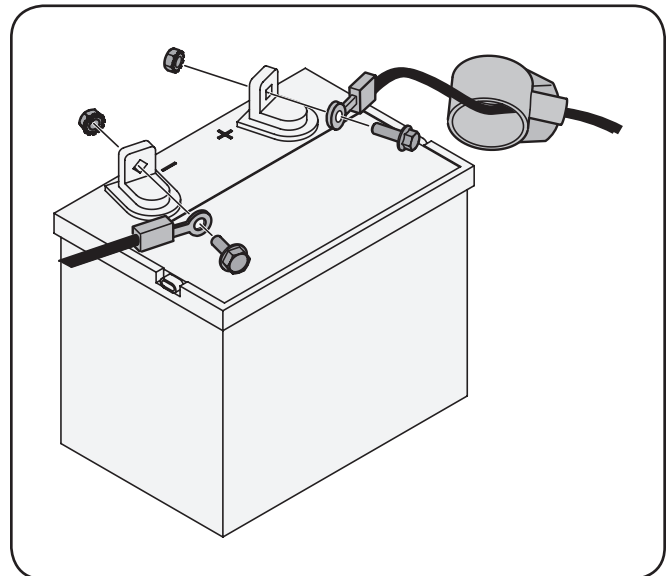

Figure 3-2
1. Attach the red cable to the positive(+) battery terminal and the black cable to the negative(-) battery terminal with the bolts and hex nuts provided. See Figure 3-2.